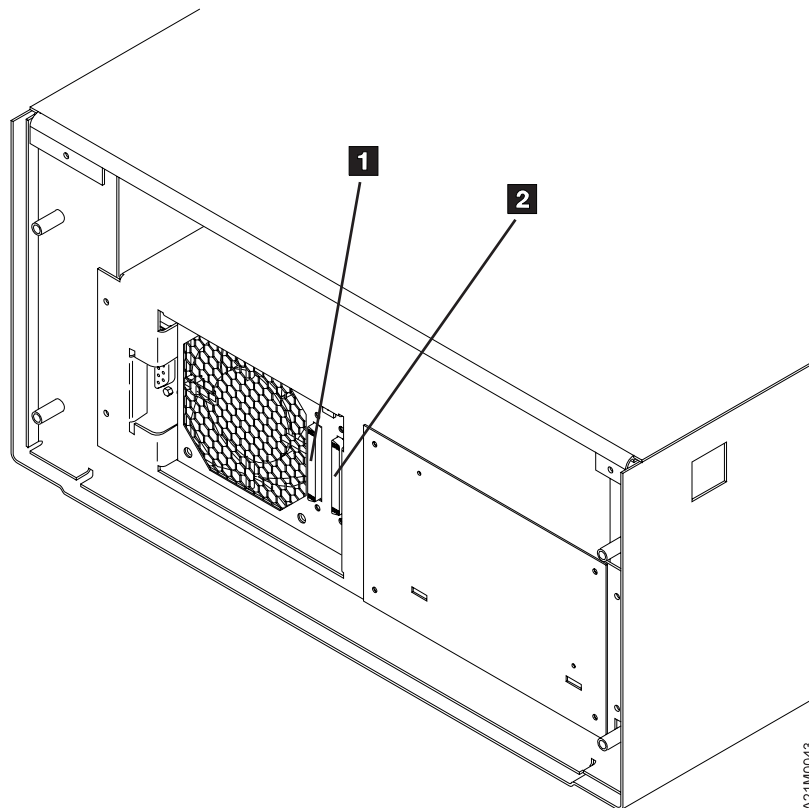

Figure 52. Rear View of Model C21
1. If the 3570 is the first or only SCSI device connected in line to the initiator, connect the SCSI cable coming from the initiator to the leftmost SCSI connector on the back of the library (see **1** in Figure 52).
2. If the 3570 is not the first device on the SCSI bus, connect the SCSI interface cable coming from the next closest device to the leftmost SCSI connector on the back of the library (see **1** in Figure 52).
3. If this is the last device on this SCSI bus, locate the SCSI interface terminator (P/N 61G8324) and attach it to the rightmost SCSI connector on the back of the library (see **2** in Figure 52).
4. If the library is not the last device on this SCSI bus, locate the SCSI interface cable to the next device and connect it to the unused, rightmost SCSI interface connector on the back of the library (see **2** in Figure 52).